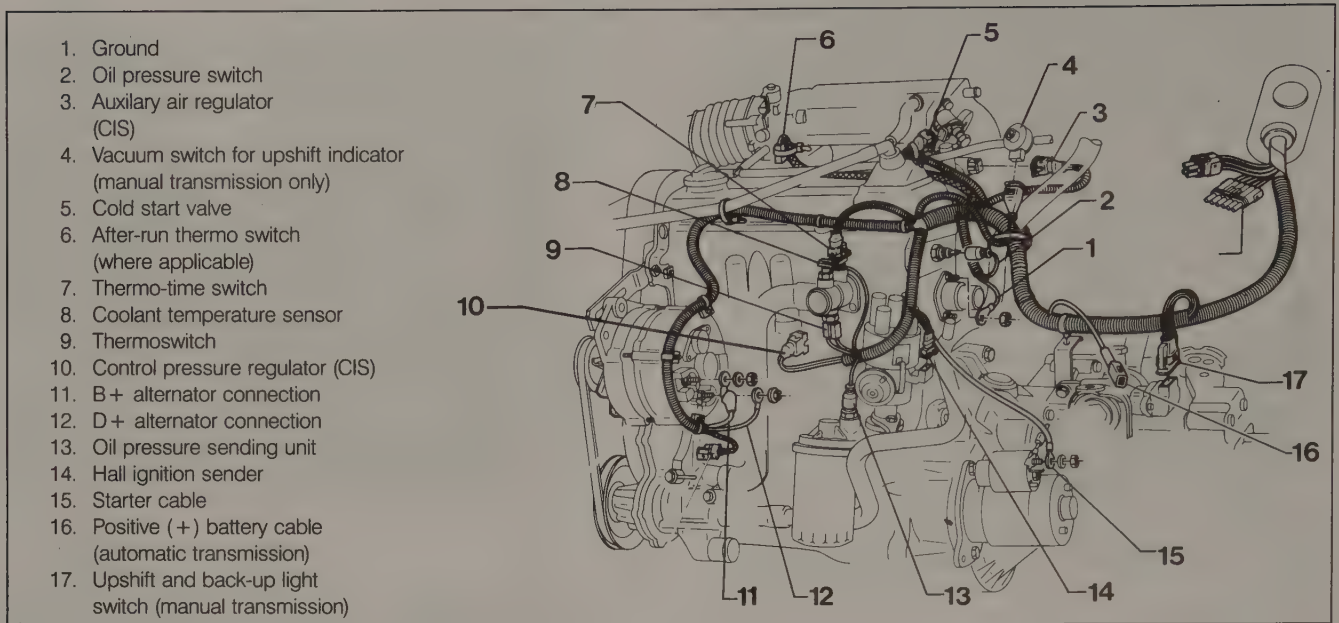

Fig. 5-5. Engine and transaxle items to be disconnected. 8-valve gasoline engine shown. Other engines are similar.
10. Disconnect all remaining electrical connections to the engine and transaxle. Typical engine and transaxle connections are shown in Fig. 5-5. For diesel fuel injection connections, see **FUEL SYSTEM (diesel)**.